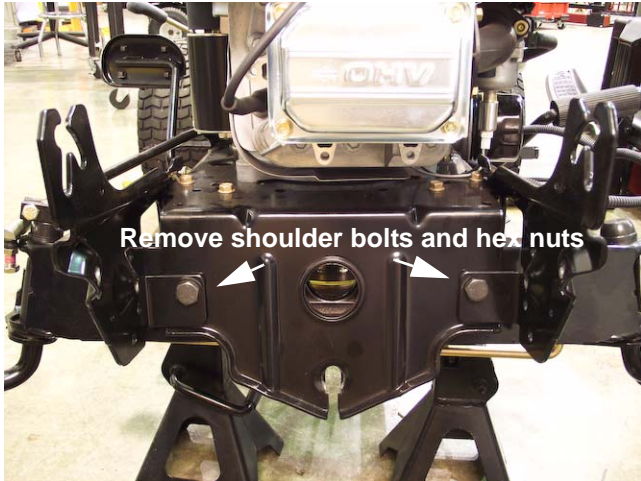

Figure 3.9
8. Remove the shoulder bolts that pass through the front hanger bracket, front pivot bracket, pivot bar, and frame. See Figure 3.9.